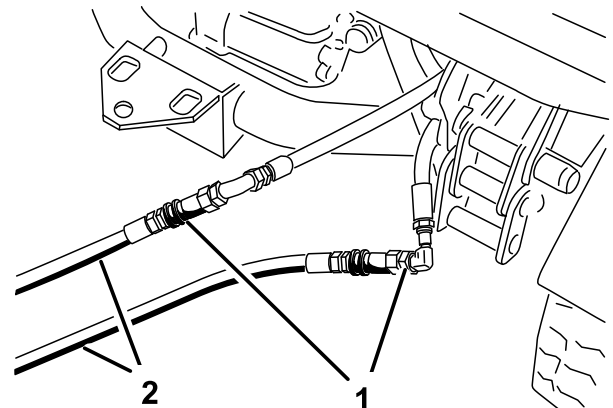

Figure 70
3. On the disabled machine, connect the 2 jumper hoses to the hoses that were disconnected (Figure 70).